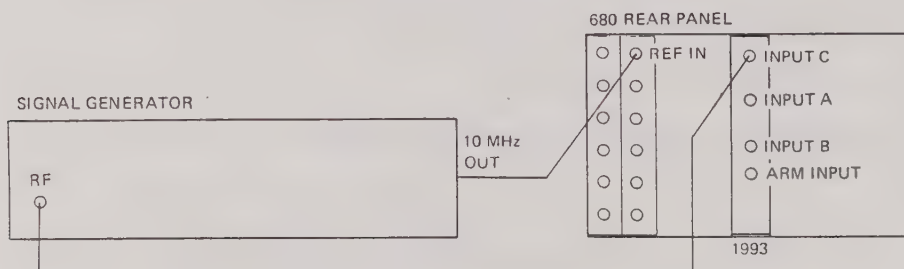

Fig. 6.6 Connections for Channel C Input System Adjustment
- 35 Connect the test equipment as shown in Fig. 6.6.